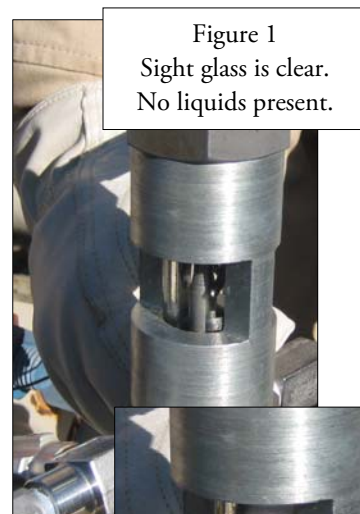

Figure 1
2. View the sight glass during sampling. If there are droplets on the sight glass, or the sight glass is foggy, that is an indication that liquids are present. If the sight glass remains clear, that is an indication no liquids are present. Record any findings according to your company procedures. (See Figures 1 & 2).